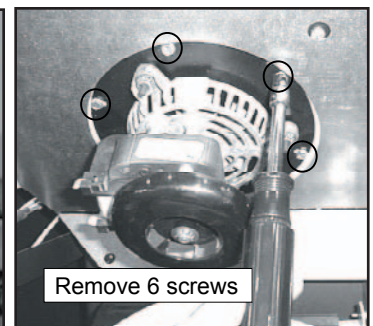

Figure 31.3
- h. Remove 6 screws using a flathead screwdriver or a 1/4" nutdriver. Retain screws for use on replacement blower. **Figure 31.3.**